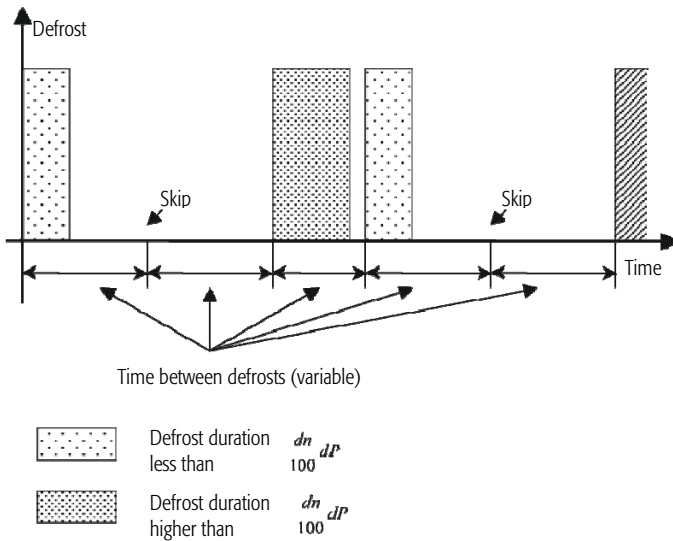

Fig. 4.14 Combination of variable time between defrosts and skip defrost.
- Combination of the previous two modes: with this type of defrost, the time between defrosts is increased or decreased based on the previous defrost, and the completion of the defrost is also based on the duration of the previous, as described for the previous types and in Fig. 4.14.